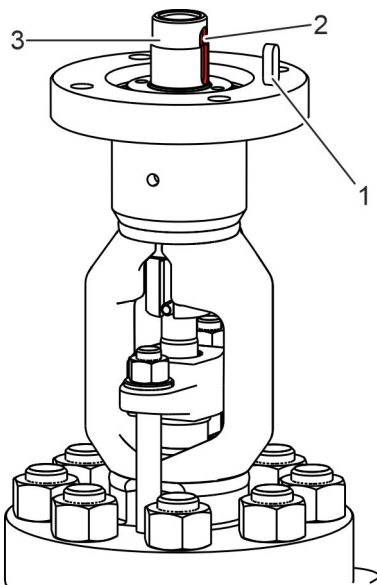

Fig. 39: Inserting the feather key
6. ➔ Insert the feather key (Fig. 39/1) into the feather key groove (Fig. 39/2) on the hub (Fig. 39/3).